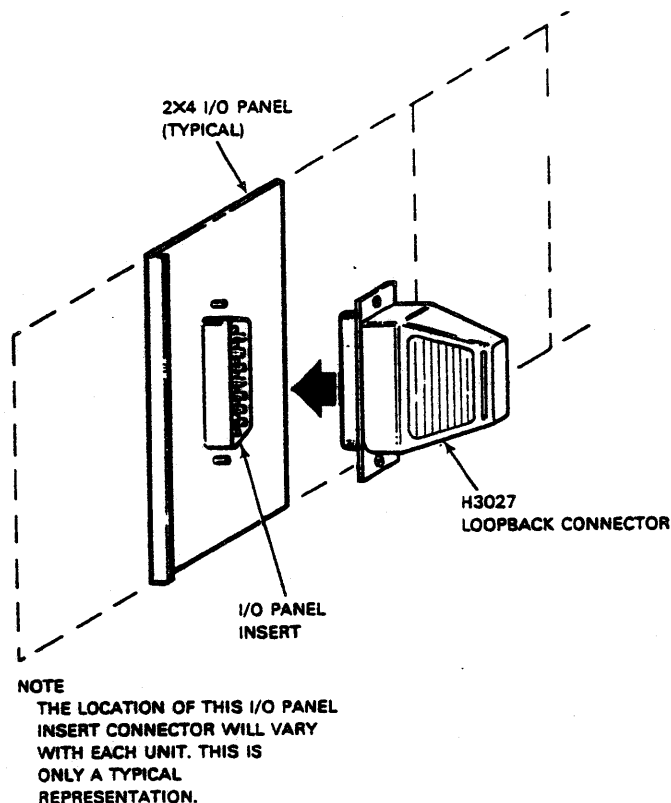

Figure 2-11 H3027 Loopback Connector Installed on I/O Bulkhead
5. Install the H3027 loopback connector (Figure 2-11) to the I/O Panel side of the I/O Panel connector (outside of the cabinet), and execute diagnostic EVDAE setting event flag 3 for two passes without errors.